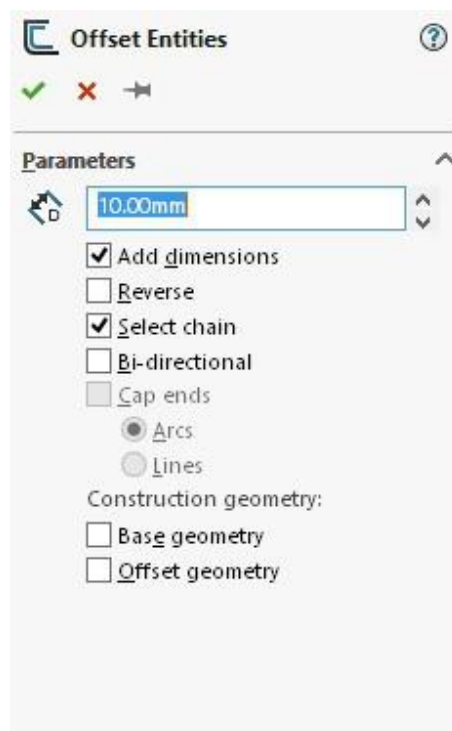

Figure 3-27 The Offset Entities PropertyManager
1. Choose **Offset Entities** tool from the **Sketch CommandManager**; the **Offset Entities PropertyManager** is displayed, as shown in Figure 3-27. Also, you are prompted to select faces, edges, or curves to offset.